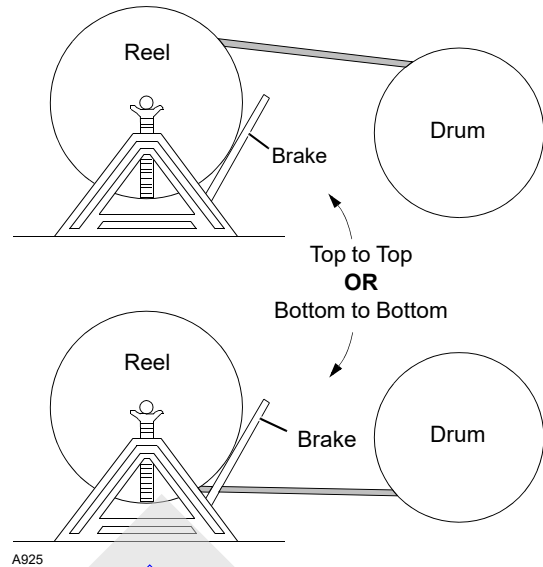

FIGURE 4-62
2. Provide a brake at shipping reel (see Figure 4-62) so wire rope can be wound tightly onto drum.
3. Avoid a reverse bend when winding wire rope onto drum: wind from top of reel to top of drum or from bottom of reel to bottom of drum as shown in Figure 4-62.